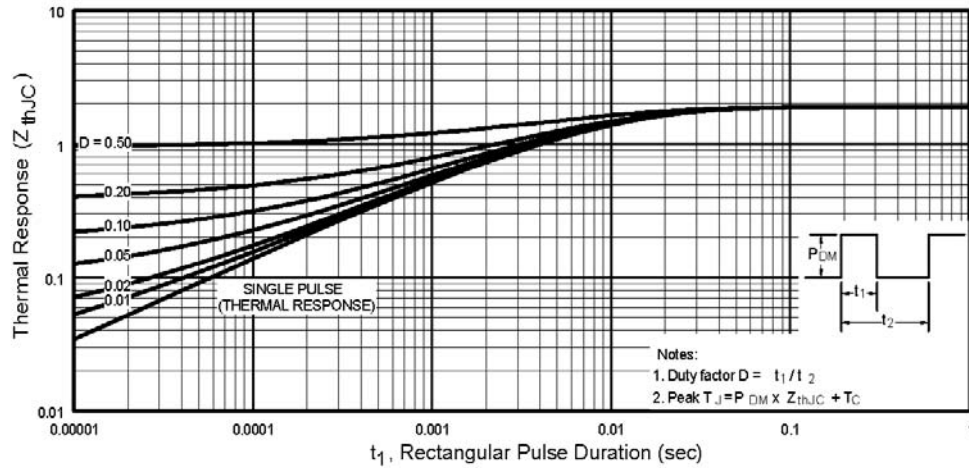

Fig 11. Maximum Effective Transient Thermal Impedance, Junction-to-Case
- ① Repetitive rating; pulse width limited by max. junction temperature. (See fig. 11)
② Starting $T_J = 25^\circ\text{C}$, $L = 3.7\text{mH}$